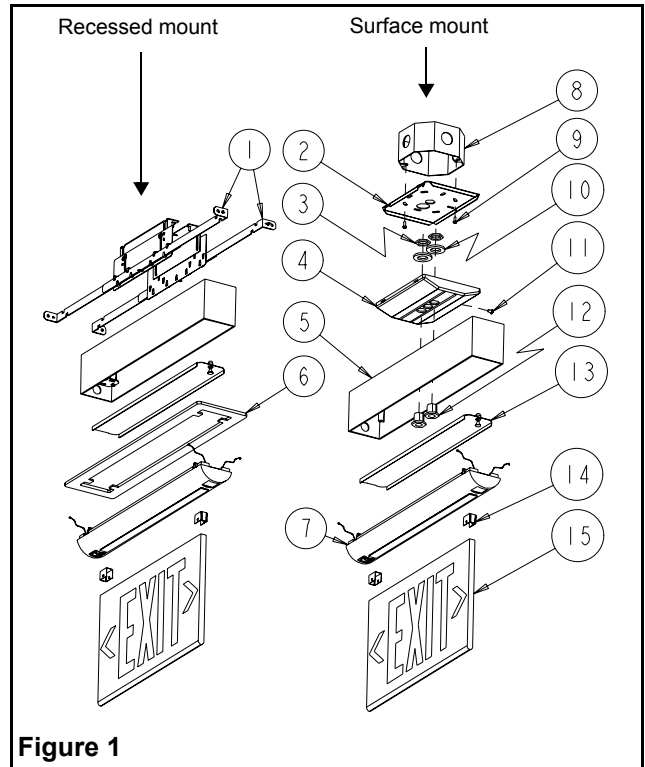

Figure 1
3. If the application is for a recessed mount, add the decorative trim ring to the trim plate assembly (see fig. 1).